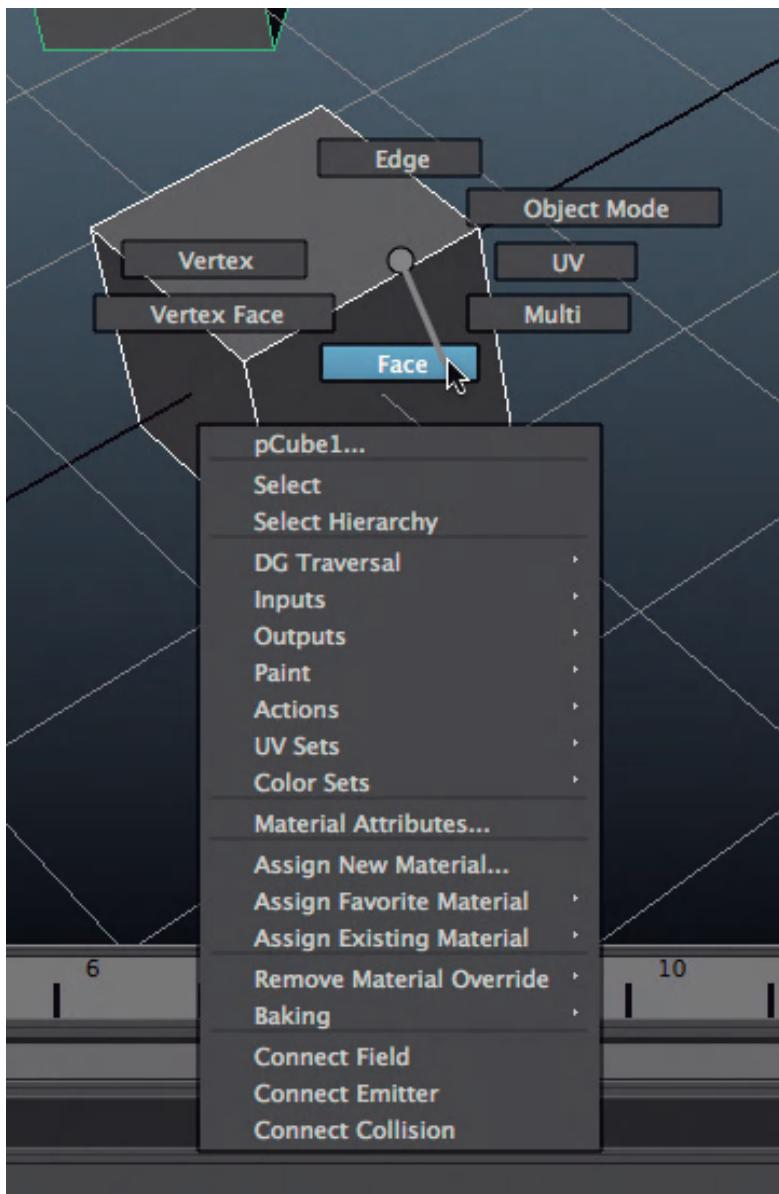

FIG 2.16 Telling Maya that you plan to work with the faces of the form by right-click-holding on an object.
Step 20: Choose Face (Fig. 2.16).